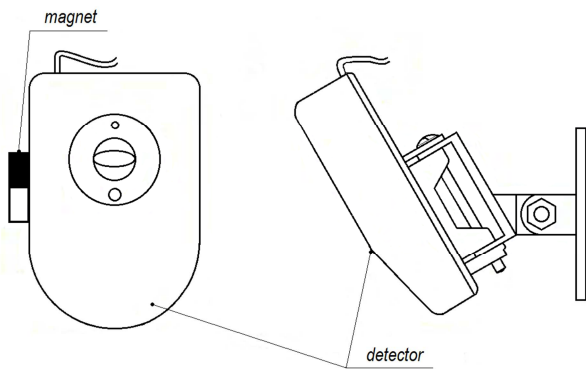

Figure 4. The location to place a magnet at for testing
The command *Set Device Address* is used when the detector should be assigned with an address regardless of which address is given to the detector currently. This way is suitable when, for example, the same address is assigned with two or more devices. If so, issue a command to set the required address from the PC or the control panel. Then, within 5 minutes max since sending the command, place a magnet at the position on the detector enclosure shown in Figure 4. The detector LED shall start showing solid light. The network controller shall display the events of loss of communication with the device assigned with an old address and finding a device with the new address. If several devices were assigned with equal addresses set then there will be no messages about loss of communications for old addresses.
2.4.3 Testing detector operability can be performed by setting a permanent magnet to the detector (see Figure 4). The network controller shall respond with a Test or Fire Alarm message depending on the current test mode. Function of testing operability of the detector is supported by polling loop controllers S2000-KDL of versions 2.15+ and S2000-KDL-2I of versions 1.15+.